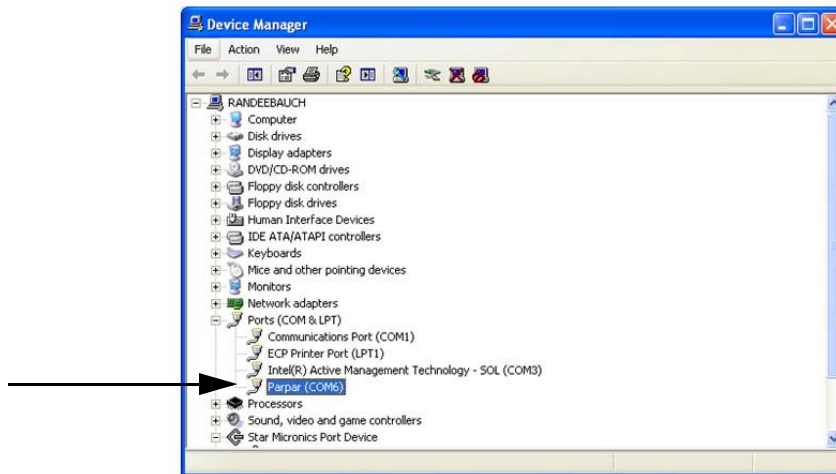

Figure 4-4. Device Manager
9. To configure a printer using the USB driver, open the software driver *Parpar* in the device manager (Figure 4-4). The port assigned to that driver is displayed.